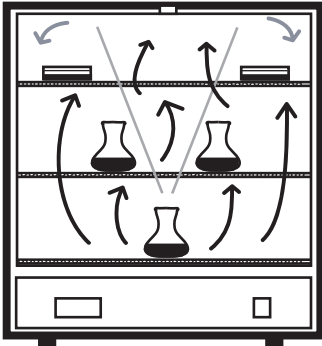

FIG. 3
- Stagger articles from those on lower shelves in a "V" formation. (FIG. 3 )